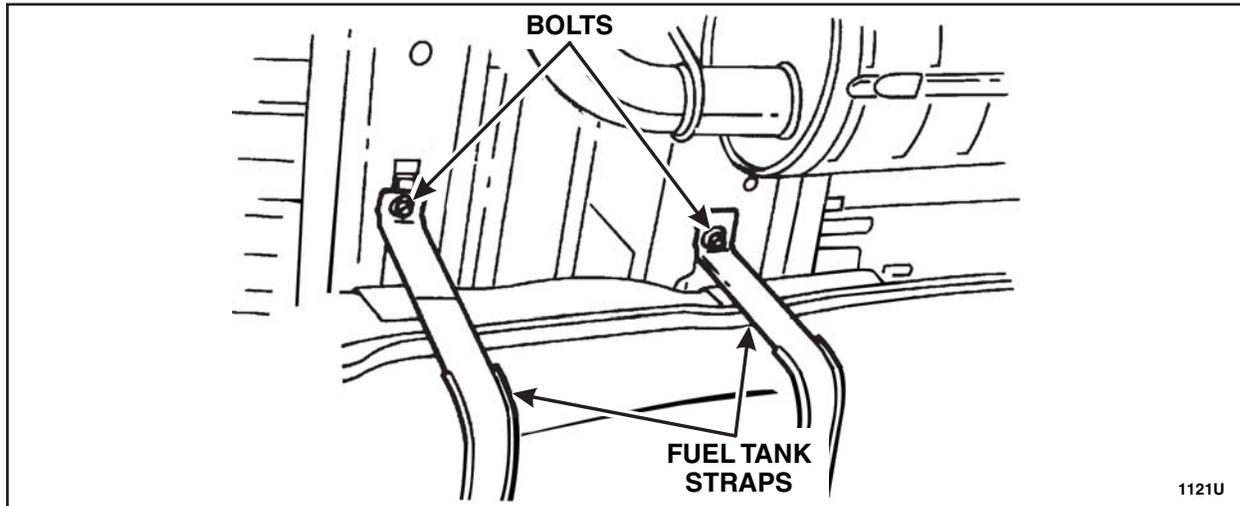

FIGURE 1
1. Remove the fuel tank straps. See Figure 1.